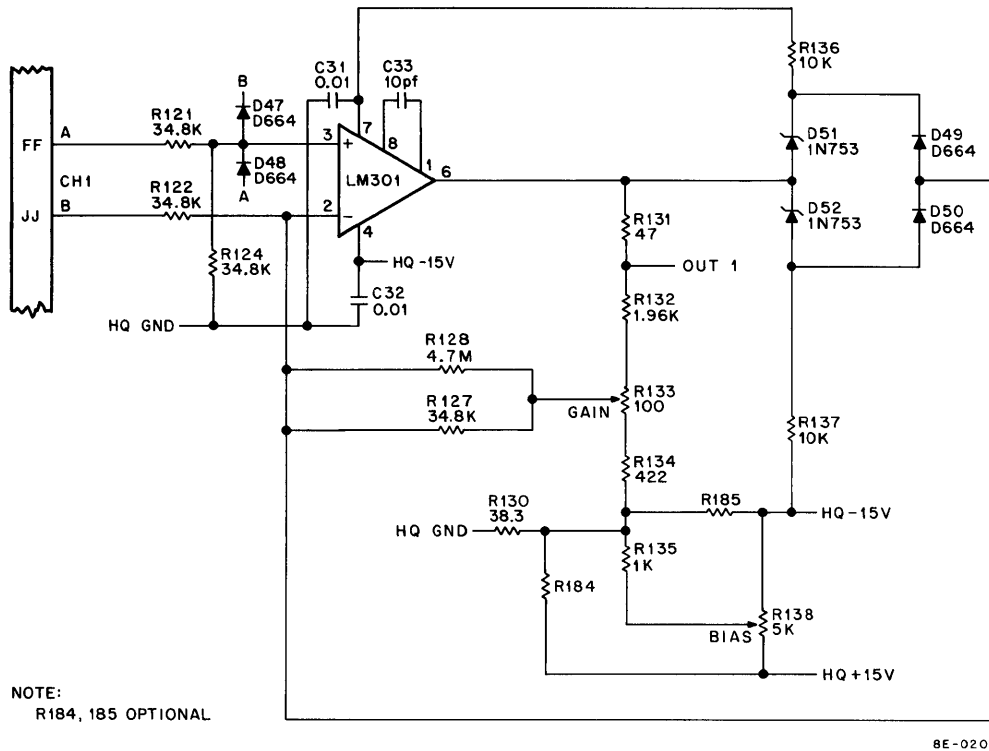

Figure 4-28 Differential Amplifier
**4.3.2.1 Differential Amplifiers** – Figure 4-28 shows one of the eight differential amplifiers used in the preamplifier and multiplexer expander module. For this discussion, we will refer only to channel 1 (E9 circuitry). The positive input to channel 1 is applied to pin FF, negative to JJ. Two adjustments are provided for this circuit. R138 (bias) is an offset adjustment which sets to amplifier output (OUT 1) equal to  $0\text{V}$  for  $0\text{V}$  input between FF and JJ. The gain adjustment, R133, will set the amplifier gain to swing  $\pm 5\text{V}$  for a  $\pm 1\text{V}$  change across FF and JJ.